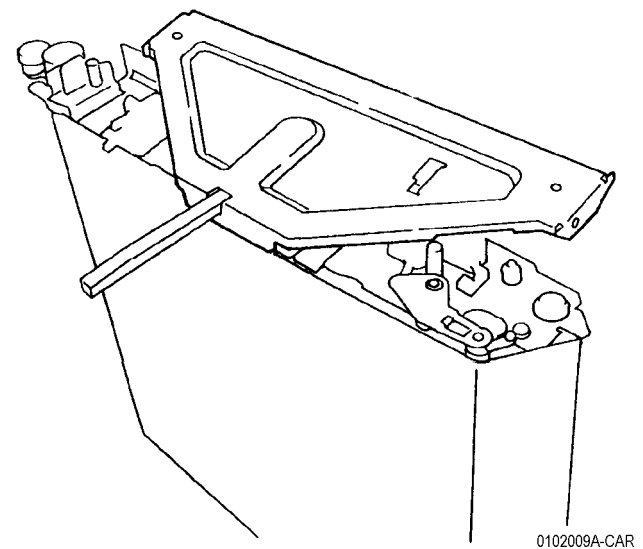

Figure 5 Installing Stand Plate
7. Install Stand Plate (Figure 5).